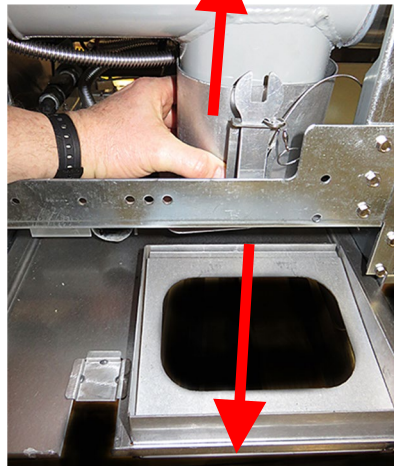

Figure 7
9. Remove the filter pan lid by lifting up on the collar, around the drain tube, while pulling on the filter pan lid (see Figure 7).